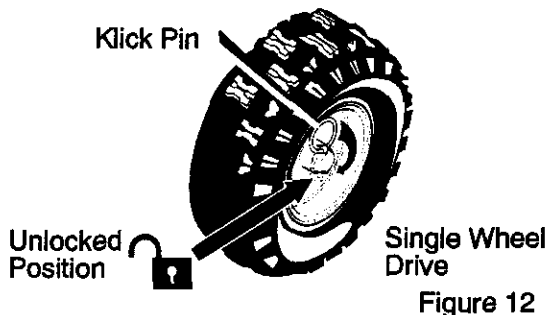

Figure 12
2. For ease of maneuverability in light snow conditions, disconnect the **klick pin** from the wheel **locked position** and push into the single wheel drive position (**unlocked axle hole only**). See Figure 12.